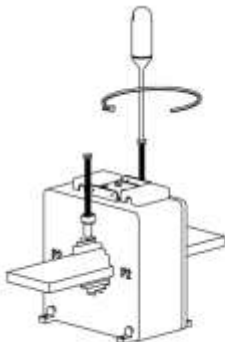

Figure 32: Screwing in the centering screw on the P1 side
4. The transformer is equipped with centering screws. Proper functioning of these screws requires to have them screwed up with proper torque - see Fig. 32 to 35. The highest torque is **2.5 Nm**. When this limit is exceeded the transformer casing may become irretrievably damaged.